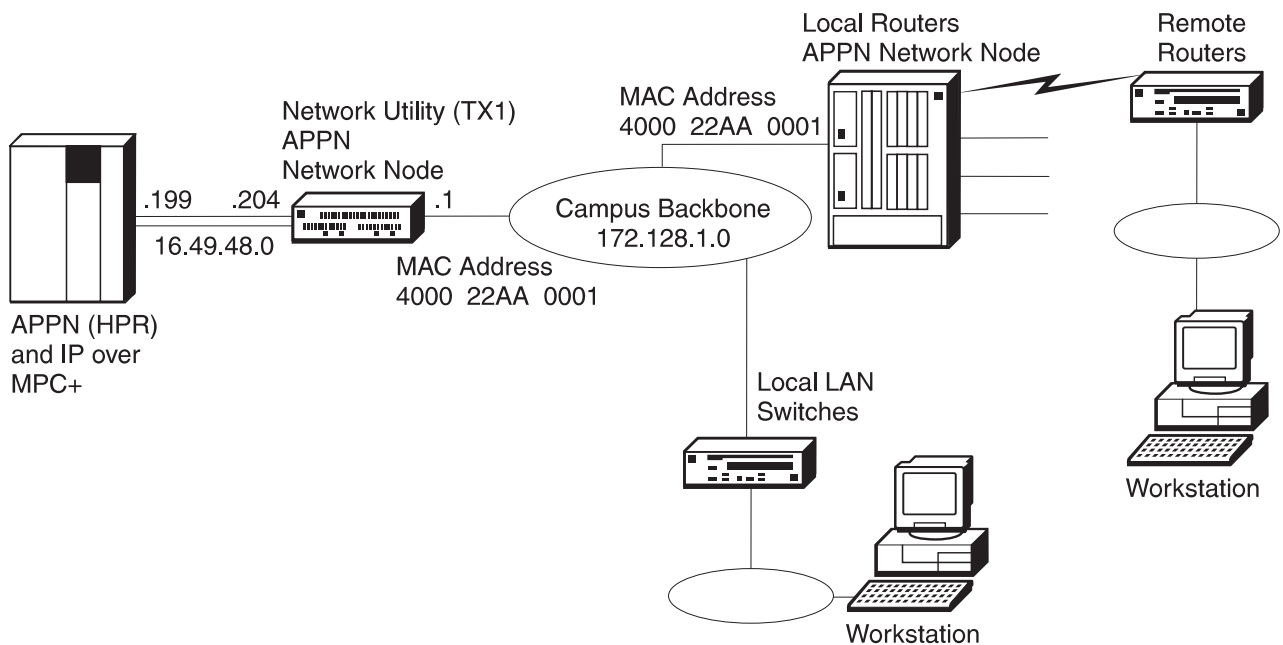

Figure 42. Channel Gateway (APPN & IP over MPC+)
8. The destination MAC address in this example is the local router on the right-hand side of the campus backbone in Figure 42 on page 233. This router is also configured to be an APPN network node.